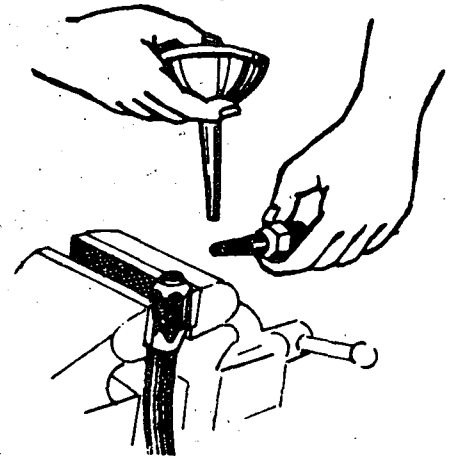

Fig. 7
- b) Lubricate the thread of the nipple and the inside of the hose (Fig. 7).